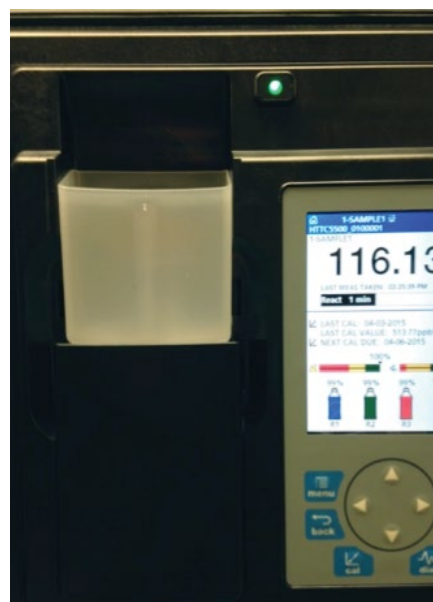

Figure 3: Grab sample funnel
2. Remove the sample funnel from the analyzer and rinse it with the standard (see Figure 3).